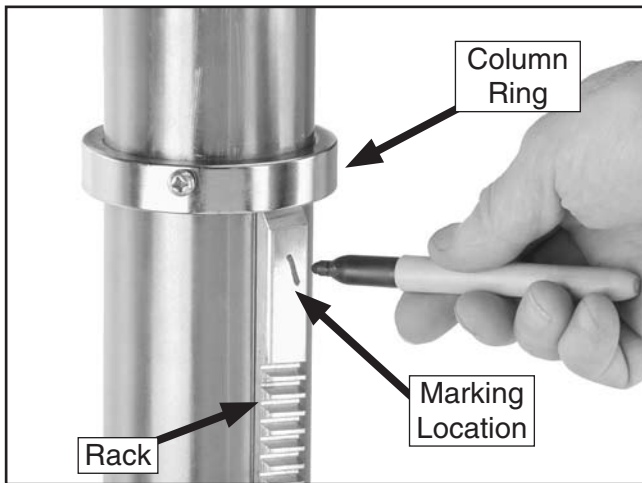

Figure 8. Marking top of rack to show which end is up.
2. Mark the top of the rack, as shown in **Figure 8**, to keep track of which end is up.